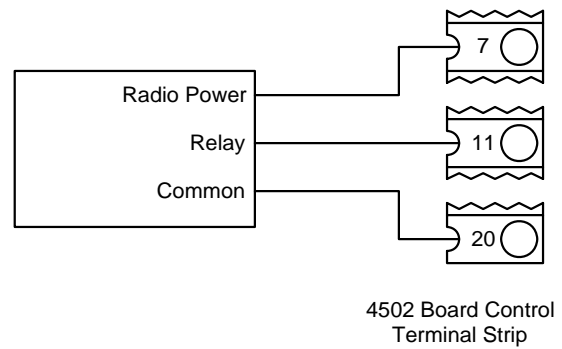

Figure 28
- Connect the radio receiver to the master operator as shown in Figure 28. If operators with battery backup are being used, refer to the supplemental manual (p/n 2340-065) for radio receiver wiring options.